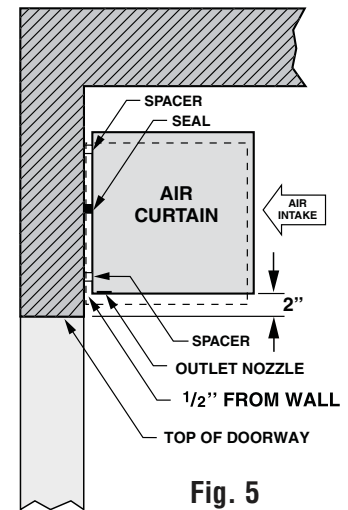

Fig. 5
If the unit must be mounted higher, it must be spaced out from the wall 1/2" for every inch the unit is above the door opening. Also a seal must be placed between the entire length of the unit and the wall. (See Fig. 5)
3. To ensure peak performance, keep the air stream free of obstructions. Make sure that nothing interferes with the curtain of air. If the air curtain cannot be installed flush with the wall, be sure to seal the gap between the wall and the back of the air curtain along the entire length of the unit to prevent airflow through this void. (See Fig. 5). The discharge vane is directed from 0° to 20° toward the door opening. If the air stream strikes any obstruction (the top edge of the doorway, a door opening device, etc.), the effectiveness of the unit will be greatly reduced.
5. Before mounting the air curtain, check the supporting structure to verify that it has sufficient load-carrying capacity to support the weight of the unit(s). The mounting hardware (may be supplied by others) should be capable of supporting a minimum of three (3) times the weight of the unit.
This mounting method would be used when the Air Curtain cannot be attached directly to the wall. If the unit is slightly away from the wall, there must be a seal between the unit and the wall. See Fig. 5, page 4.